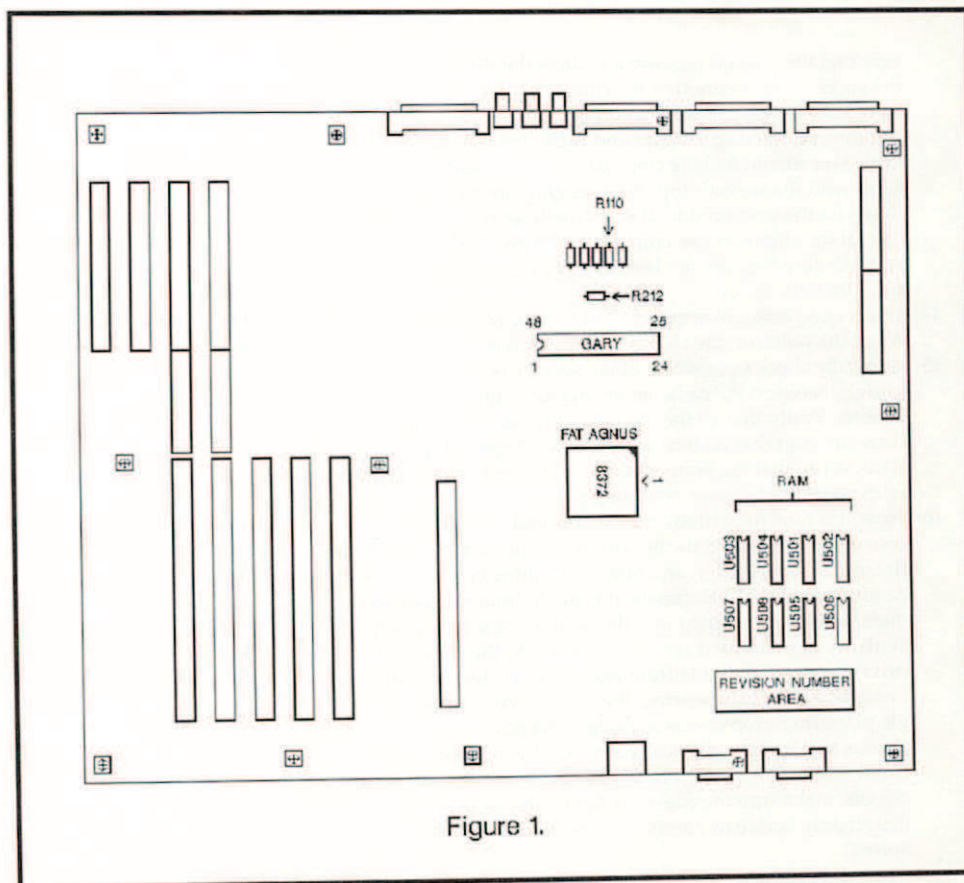

Figure 1.
- 5) Refer to Figure 1. Locate the revision number on the motherboard, and look at the RAM chips. If the motherboard is revision 6 or above, or if the memory chips are 20-pin devices, you can complete the conversion. If neither of these conditions is met, you cannot convert your computer using this method.
- 6) Remove any expansion cards that may be installed and set them aside. Look at the motherboard and Figure 1. You should see 10 screws in the approximate locations shown in the figure. They should be easy to find, as each screw is located in the middle of a silver square on the motherboard. There are also two screws located on I/O port connectors—the disk drive connector at the rear of the case, and the mouse port at the front of the case. Remove these screws and set them aside. Look at the left side of the motherboard near the front panel. You should see a wire harness that plugs onto some pins there. Unplug the harness. Remove the motherboard from the case by tilting the front edge of the motherboard up, then lifting the board out.
- 12) Now you will add the jumper that connects pin 35 of the 8372B Fat Agnus to the CPU address bus A20 line. Place the board component side up, with the mouse/joystick ports facing you. You will need to disconnect two resistors, R110 and R212. Refer to Figures 1 and 2. You will heat the lead of each resistor shown by the X in the figure, then pull it free from the motherboard with forceps or needlenose pliers. Once the end is free, straighten the resistor lead. Measure and cut two pieces of 1/8"-dia. heatshrink tubing that are long enough
- 13) Turn the motherboard component side up. You will now install the 8372B chip. Refer to Figure 1 and your motherboard. The number 1 and a "V" are silk-screened on the motherboard near the edge of the chip socket. By orienting the chip so that the writing on its surface is right-side-up, pin 1 will be on the top row of pins. Using a PLCC chip puller, carefully remove the original Fat Agnus chip. You should not attempt to remove this chip using anything other than a PLCC chip puller. Doing so could crack the PLCC socket, preventing the socket from making reliable contact with your new Agnus chip.